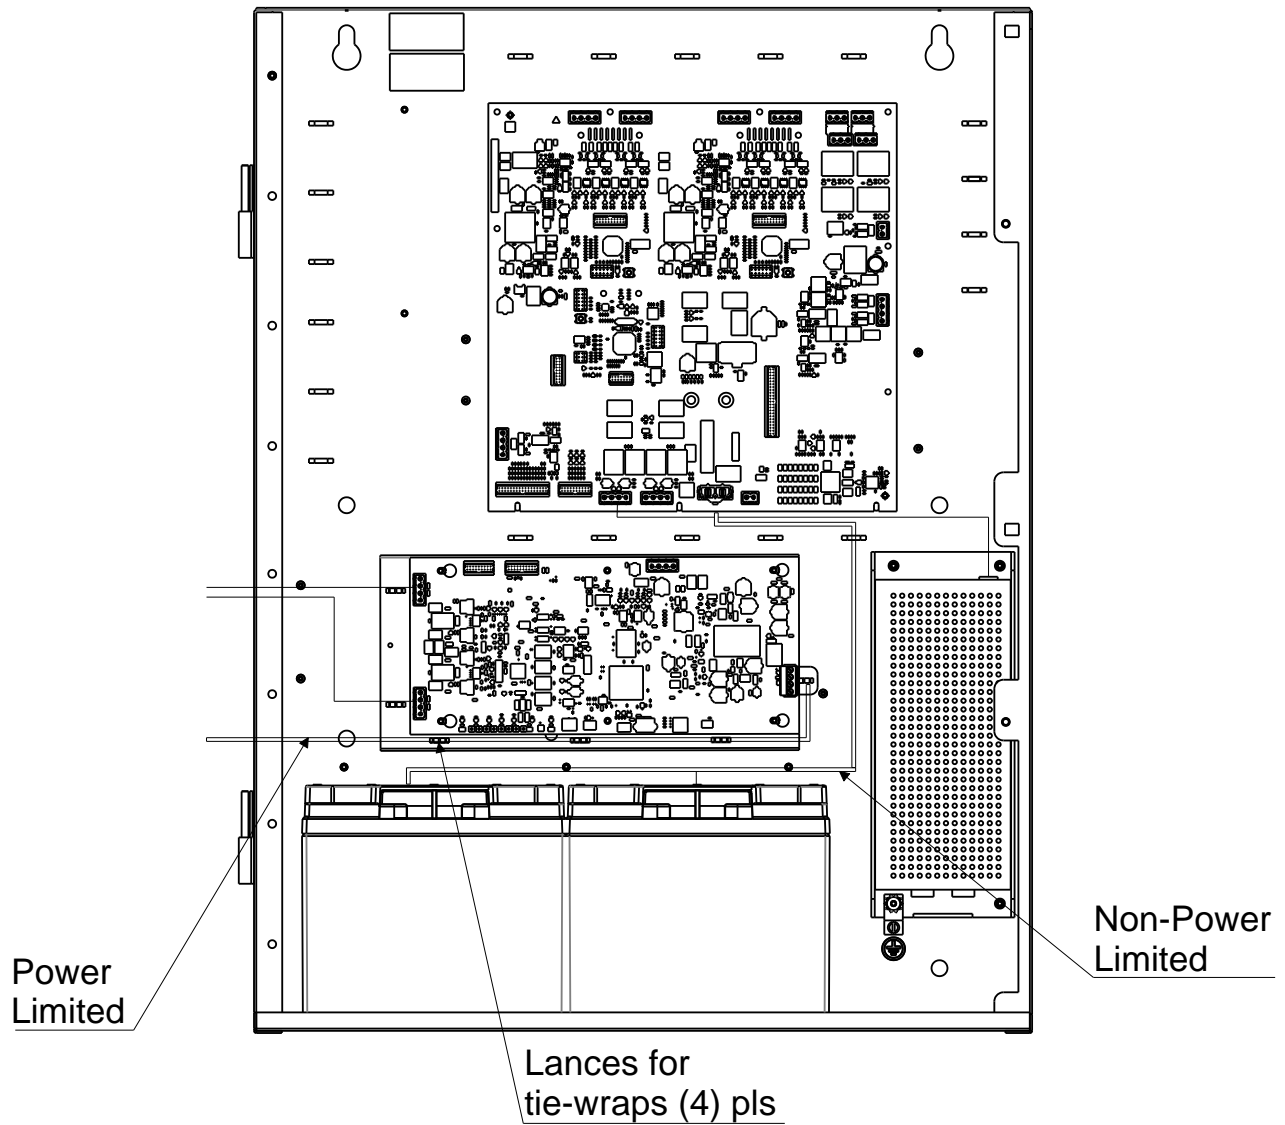

Figure 5
Use the tie-wraps in (4) places as shown in Figure 5 to maintain 1/4" Min. apart from the battery wires.